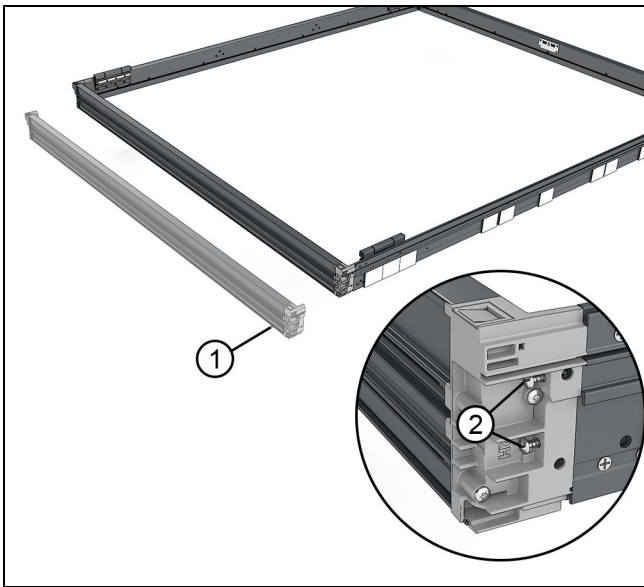

Figure 16
5. For performance and low profile sills, slide the sill with attached corner keys onto the jambs. Attach with #8 x 1 3/4" pan head screws. See Figure 16.